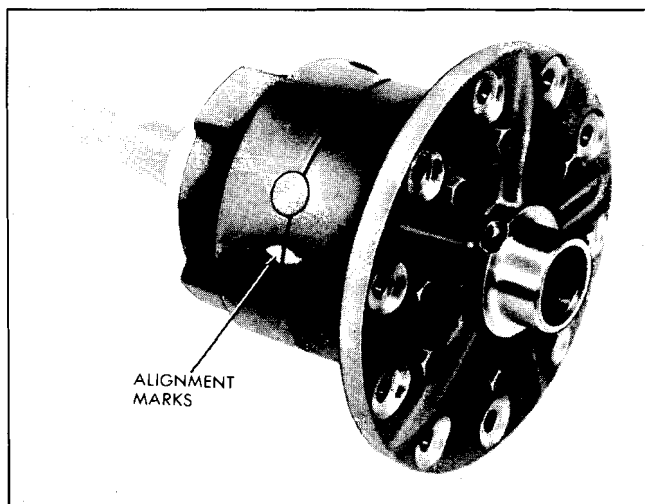

Fig. 4B-7 Paint on Alignment Marks Before Disassembly
11. Scribe mark or paint differential case halves (Fig. 4B-7) to aid in alignment of case when assembling.